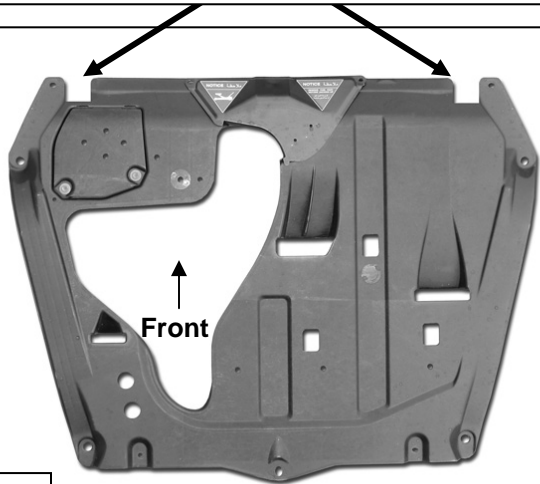

Fig 11
9. Select the driver side Support Bracket. Attach the end with the bent tab to the driver side Bolt Plate, (see **Step 4**), and over the splash guard with the included (1) 12mm x 32mm STD Flat Washer and (1) 12mm Nylon Lock Nut. Attach the flat end of the Support Bracket to the inside of the Mounting Bracket using the included (1) 12mm x 30mm Hex Bolt, (2) 12mm Flat Washers and (1) 12mm Nylon Lock Nut, **(Figures 6 & 13)**. Do not tighten hardware at this time. **NOTE:** The plastic cover under the engine/transmission will need to be trimmed slightly to clear the (2) Support Brackets, **(Figure 11)**.